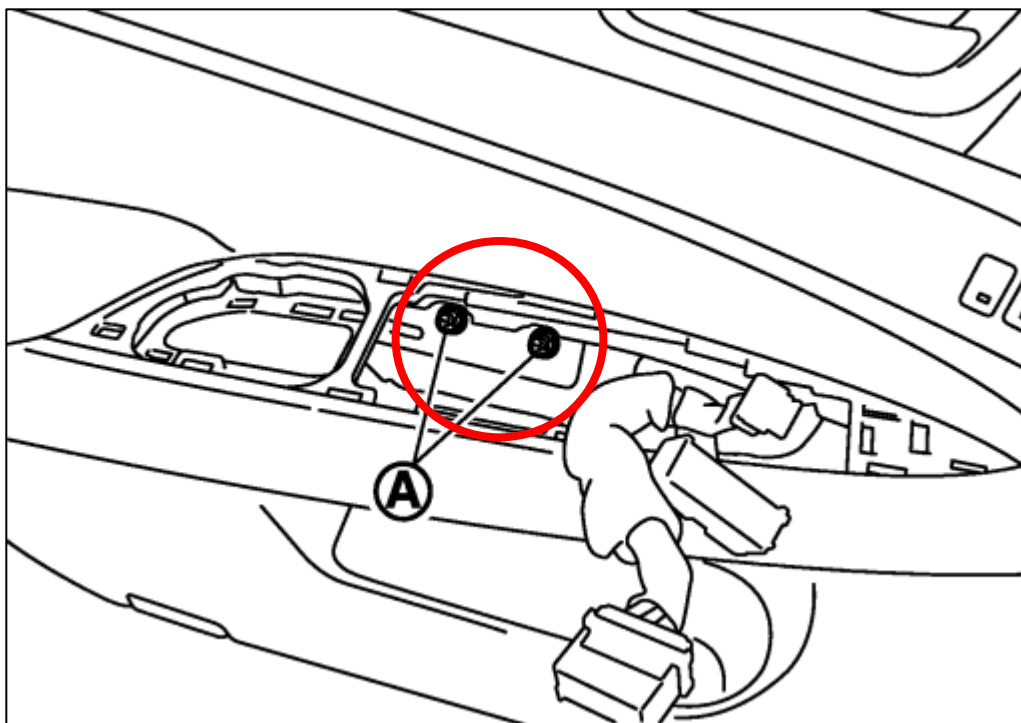

Figure 58
5. Remove the (2) two Bolts under the Door Control Panel. *Figure 58.*